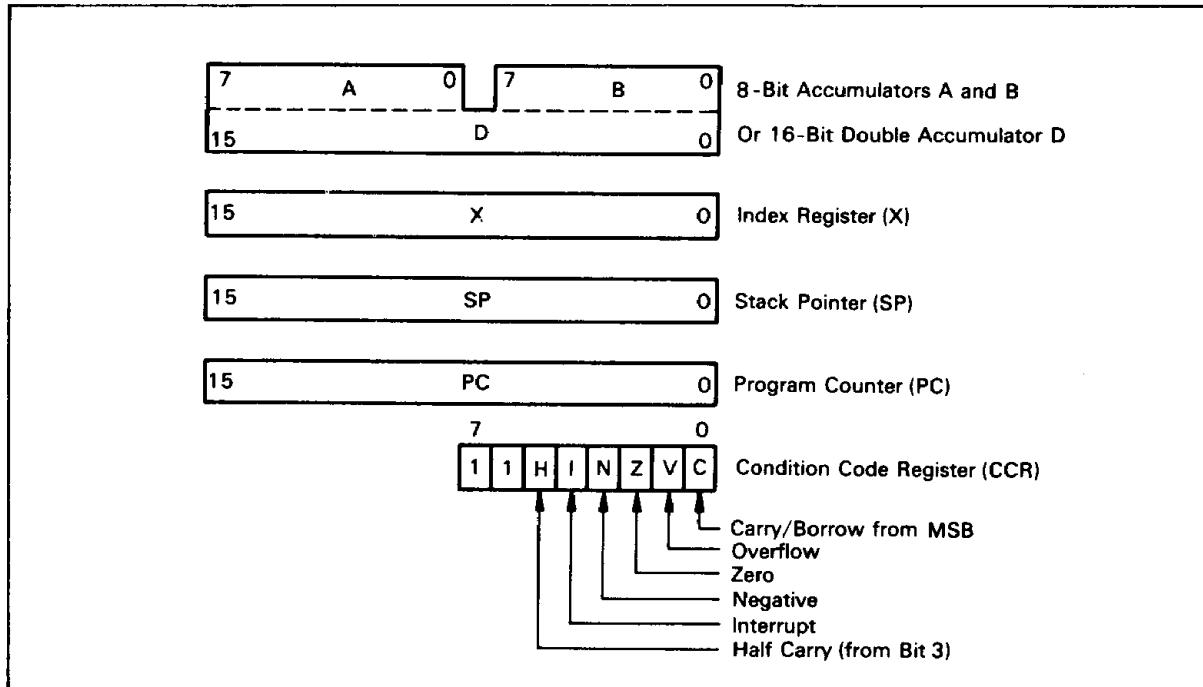

Figure 2. CPU Registers
**Registers**: Figure 2 is the HD63701Y0 register programming model. The double accumulator D consists of accumulators A and B, so using accumulator D destroys the contents of A and B.